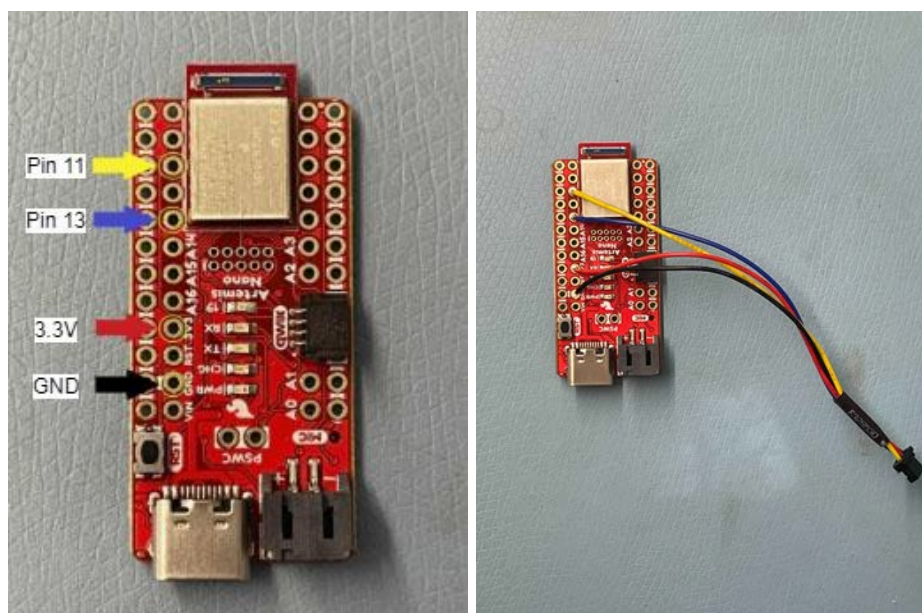

Figure 83: Each colored wire is soldered to the pins as marked by colored arrows.
5. A close view of the microcontroller (SparkFun RedBoard Artemis Nano) is seen in Fig 83. Highlighted are the pins the Qwiic cable cut in Steps 1-3 will be soldered to where the respective colors of the wire are called out by colored arrows on Fig 83.